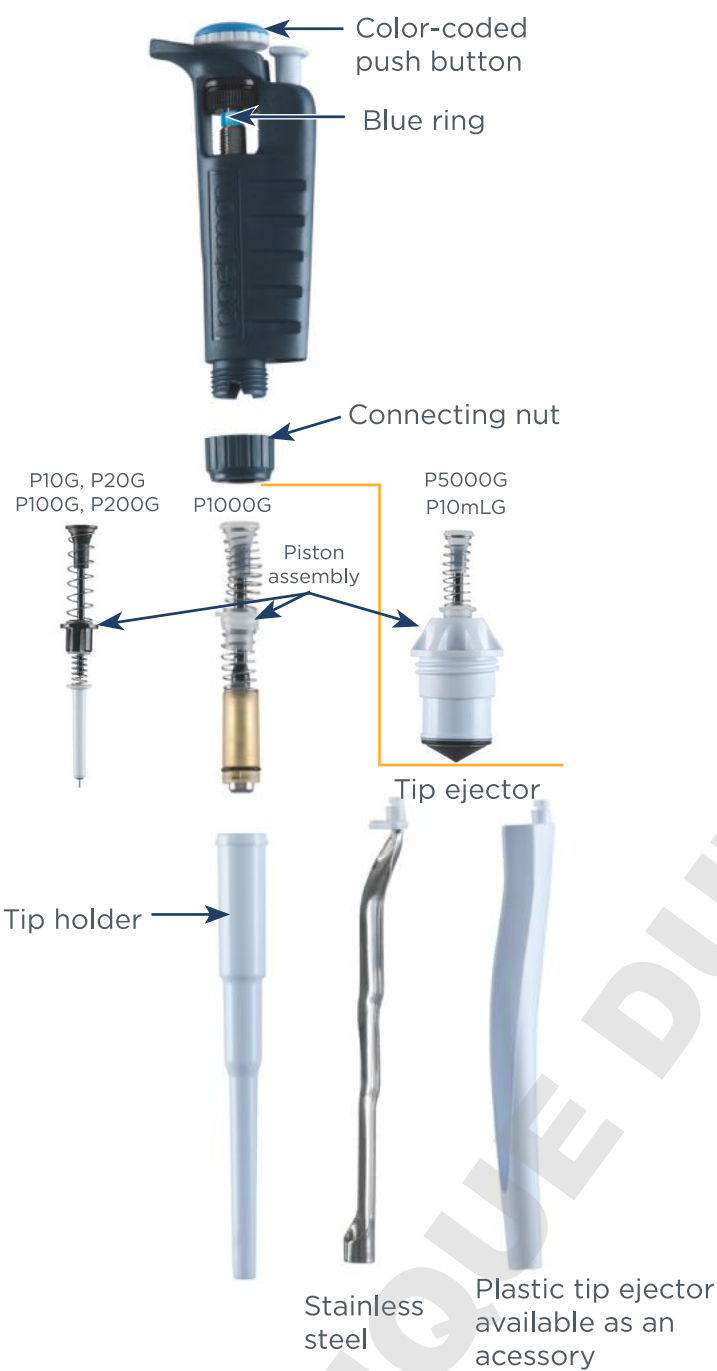

Figure 10
7. Reassemble the pipette (refer to the Figure 10 on page 19).
6. Reassemble the pipette (refer to Figure 10 on page 19).
6. Reassemble the pipette (refer to the Figure 10 on page 18).
1. Disassemble the pipette (refer to Figure 10 on page 19).
5. Reassemble the pipette as described (refer to Figure 10 on page 19).